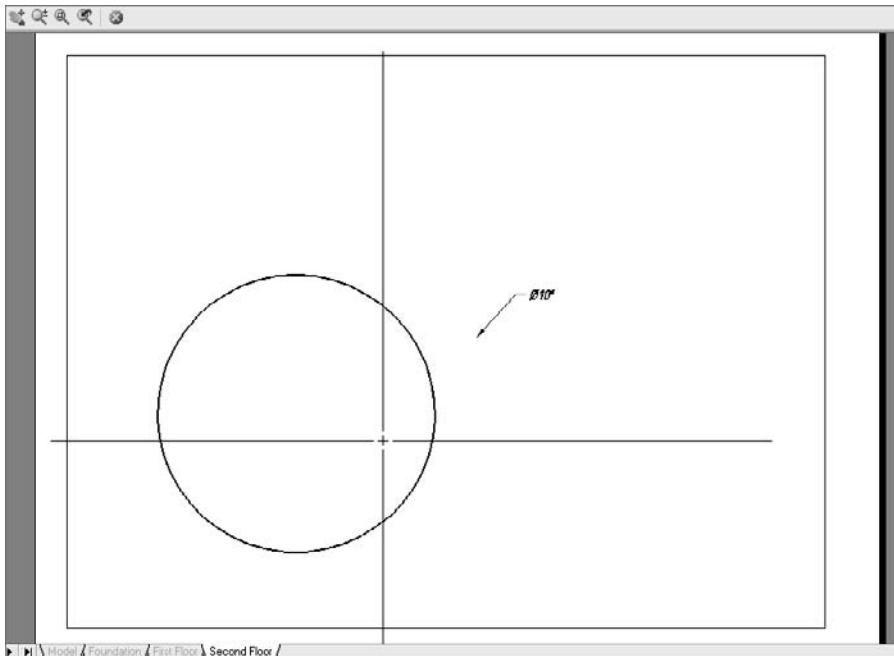

Figure 6.12
**DIMCENTER doesn't work right** A Paper Space center mark applied to a circle in Model Space using DIMCENTER doesn't scale correctly unless the floating viewport plot scale is 1:1. DIMREGEN has no effect on center marks placed this way, so they can't be reconnected to an entity after a pan or zoom of any kind. See Figure 6.12.